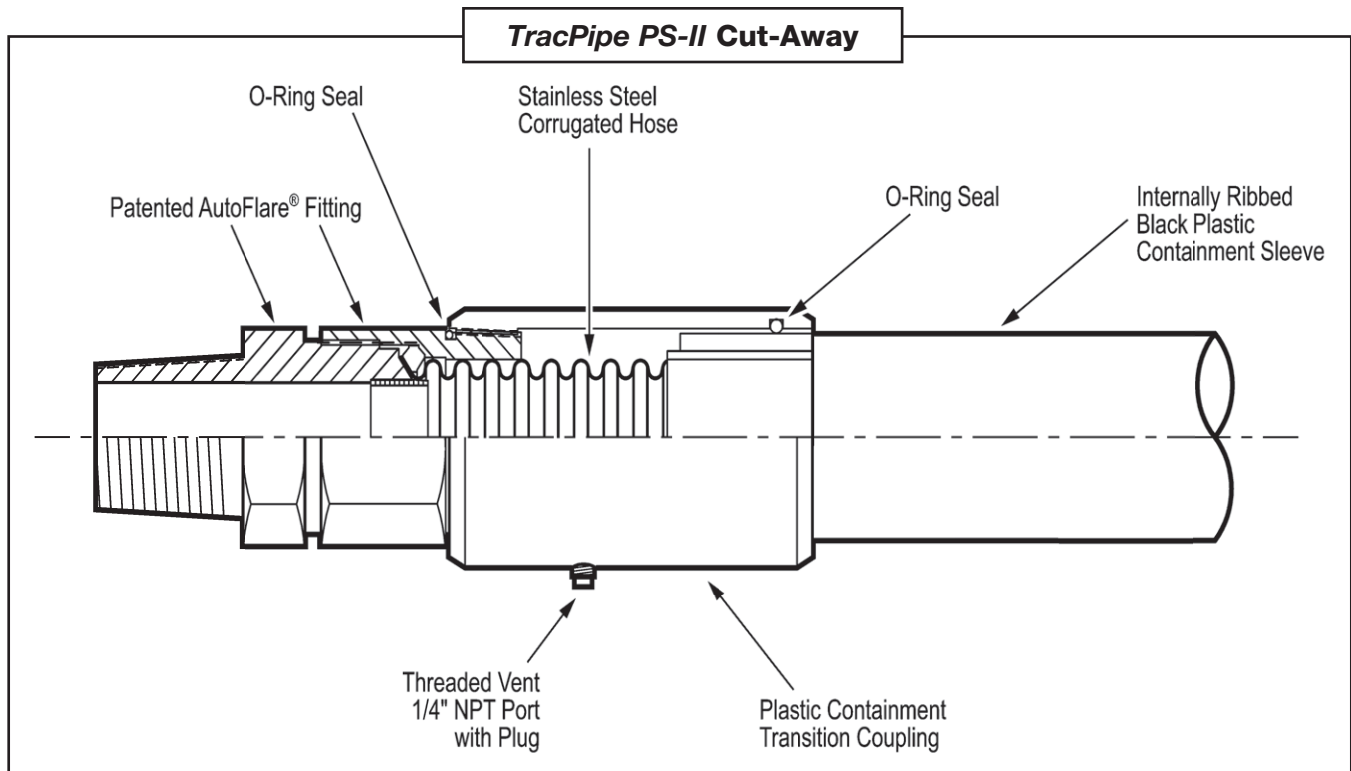

Figure: 4-45
1. *TracPipe® PS-II* is a patented system suitable for above ground and underground use. It is designed with our standard CSST tubing and incorporates an internally ribbed sleeve (conduit), and specially designed end fittings that provide vent capability at either end of a piping run in the event of a leak in the CSST. **Figure: 4-45**